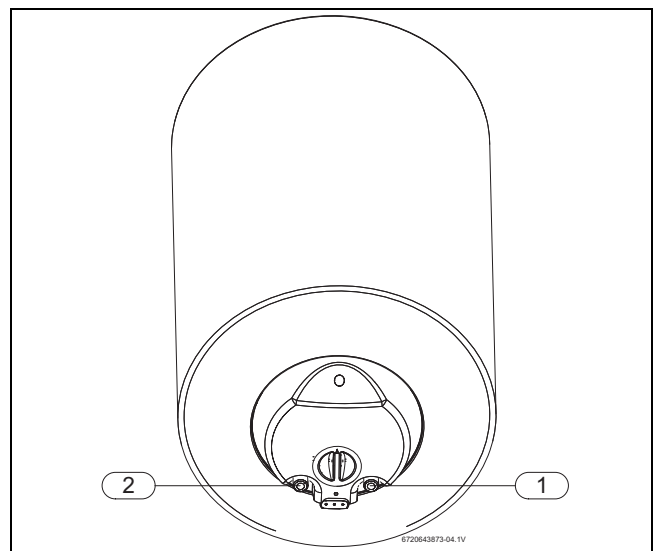

Fig. 6
- ▶ Identify the piping for hot and cold water, in order to avoid a possible swop (Fig. 6).